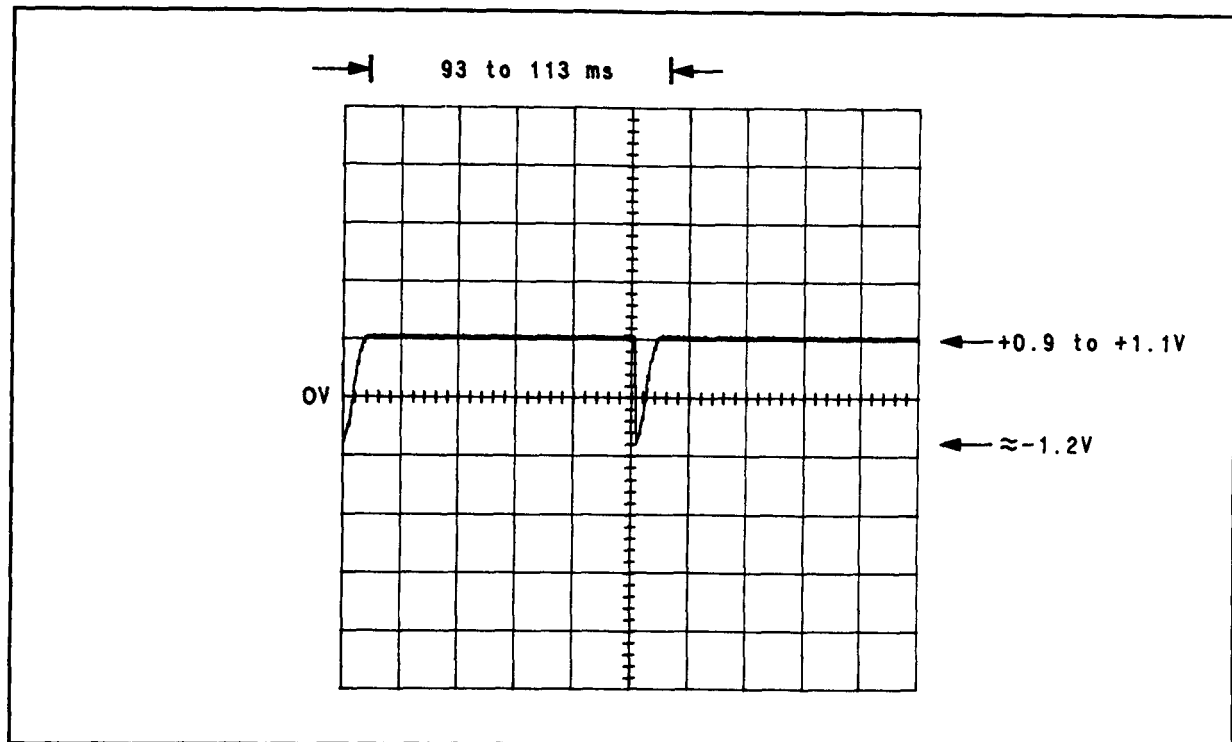

Figure 8F-20. Waveform for $\sqrt{2}$ Step 8
(1) 2.5 to 3.5 ms
(2) 0.3 to 0.4 ms
8. Connect a high-impedance, dc coupled oscilloscope to A5TP7. The waveform should be as in Figure 8F-20.